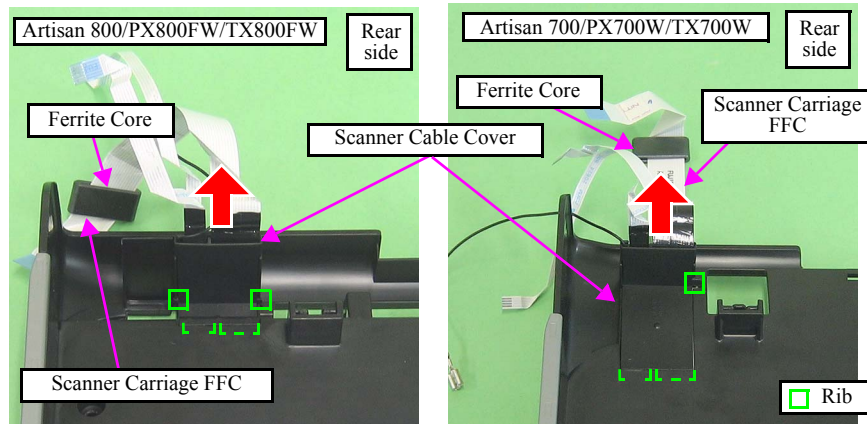
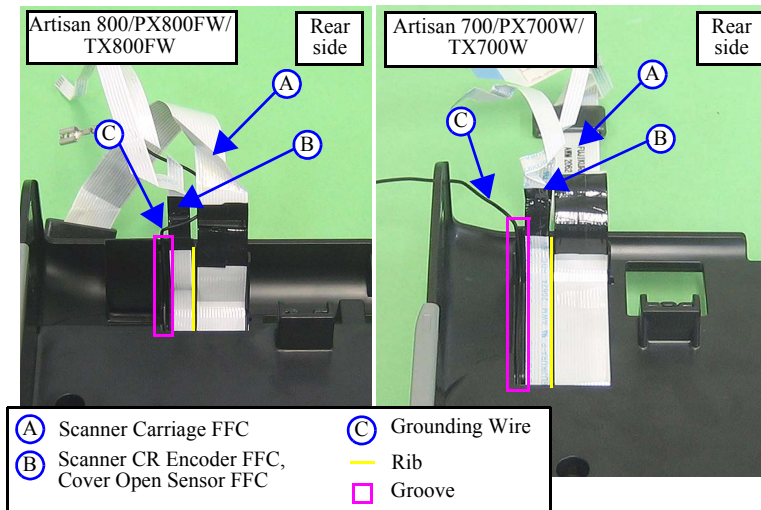
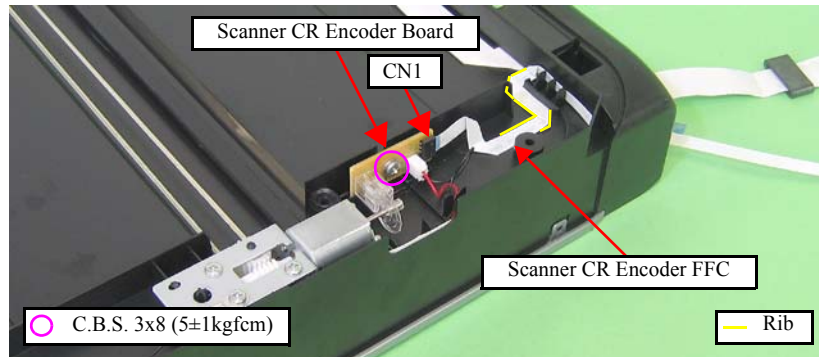

Figure 4-168. Removing the Carriage Unit (1)
Figure 4-171. Attaching the Scanner Cable Cover
Figure 4-172. Removing the Scanner CR Encoder Board
- Route the Grounding Wire as shown below and in Fig. 4-171. (Artisan 800/PX800FW/TX800FW: Fig. 4-165, Artisan 700/PX700W/TX700W: Fig. 4-166.)
When routing the Scanner CR Encoder FFC of Artisan 800/PX800FW/TX800FW, route it as shown in Fig. 4-168 and Fig. 4-172. See Fig. 4-171 and below for Artisan 700/PX700W/TX700W.
When routing the Cover Open Sensor FFC, route it as shown below and in Fig. 4-171.